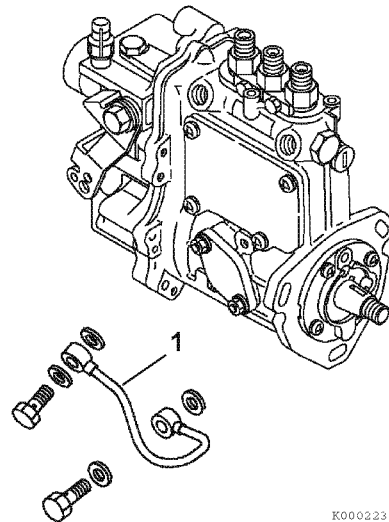

Figure 7-25
11. Reinstall the lube oil line (**Figure 7-25, (1)**).